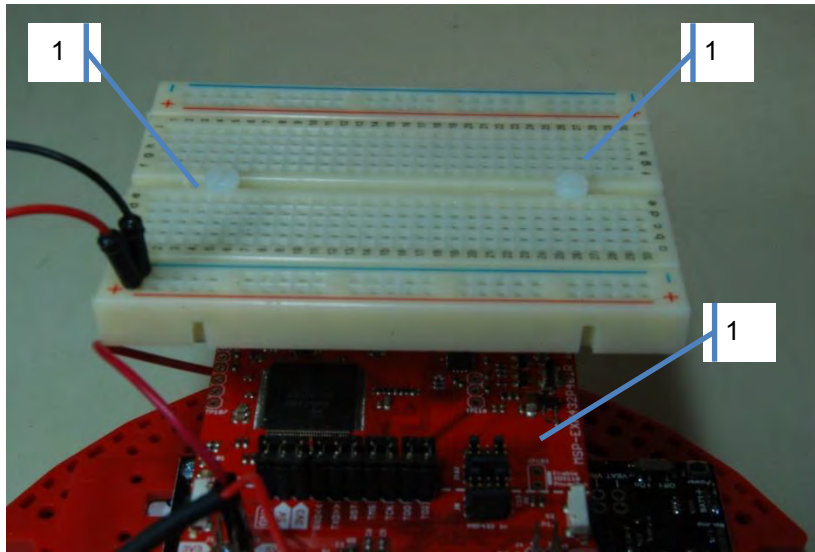

Figure 5. Solderless breadboard attached to the robot.
- 12) Drill two ¼ inch holes in the solderless breadboard to align with the two 0.75 inch standoffs. Attach the breadboard to the standoffs using two ½ inch Nylon screws. See Figure 5.